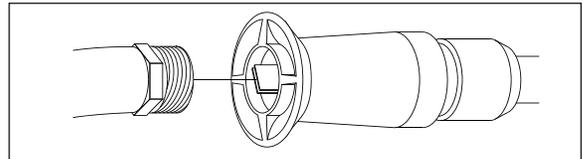

Figure 19 - Backflush 2300 & 2500 PSI Extension
- e. Using a garden hose, remove additional debris by back flushing water (Figure 19) through the nozzle extension. Back flush between 30 to 60 seconds. Turn the adjustable nozzle to stream spray and move the nozzle forward and back while flushing.